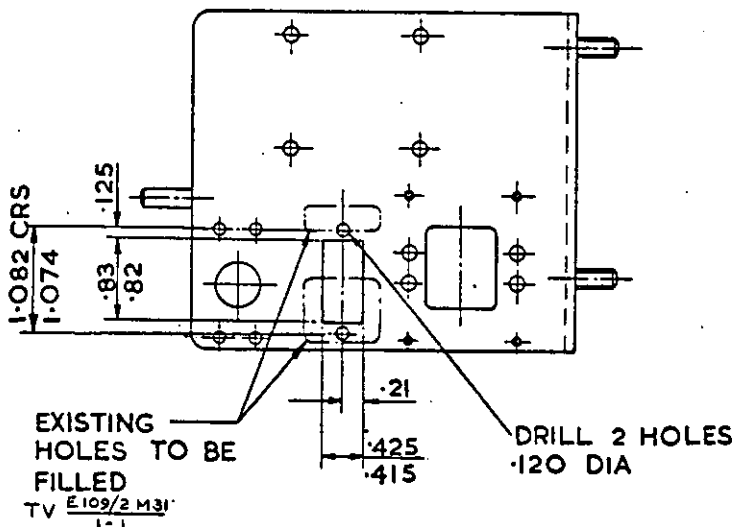

Fig 1 - Bracket modification detail
- To enable the alternative relay to be fitted (FV 394896/394906) modify the existing bracket (FV 530597) to the details shown in Fig 1.